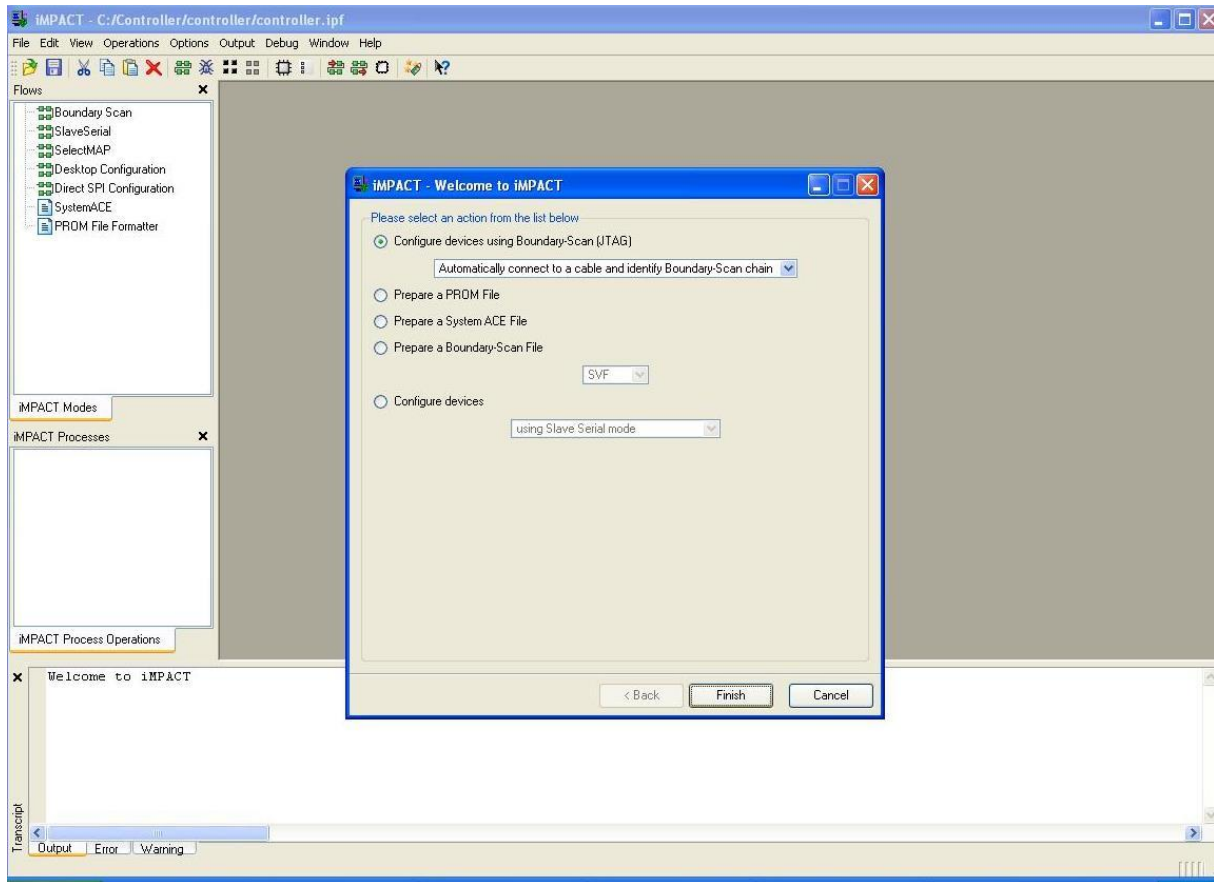

Fig 3.24: Configuring Device
1. Double Click on the **Configure Device (iMPACT)** then, a dialogue box appears which looks like as in Fig 3.24.